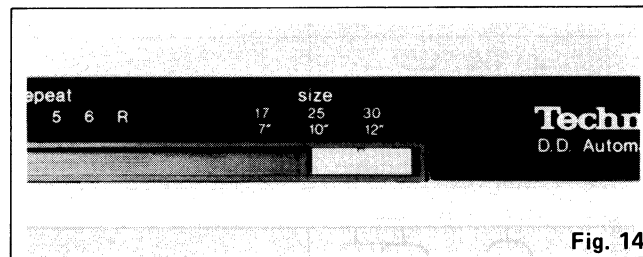

Fig. 14
2. Set the record size select knob to the diameter of the record (7" [17 cm], 10" [25 cm], or 12" [30 cm] you wish to play. (See Fig. 14.)